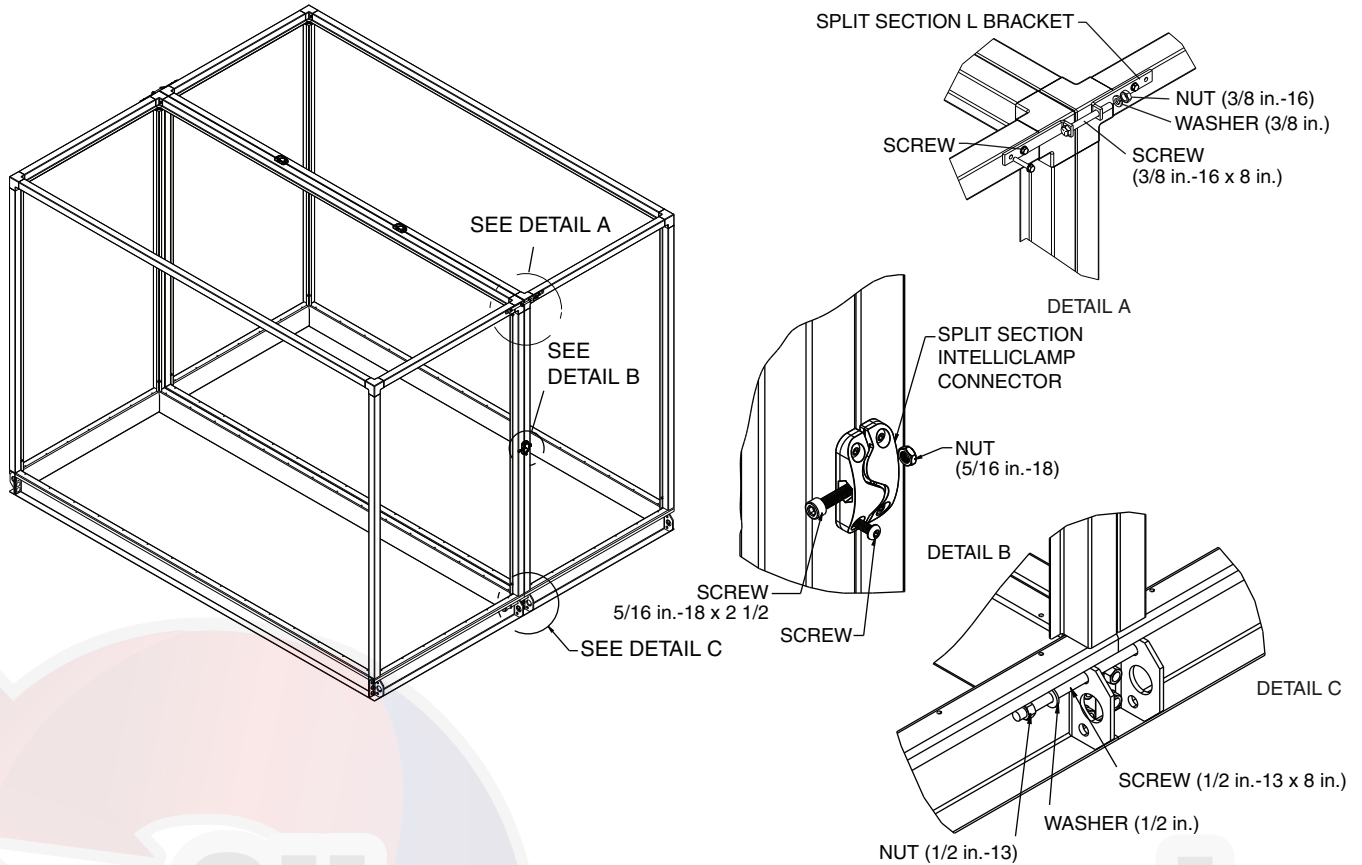

Fig. 24 — Attaching Split Sections — Non-Stacked Units and Lower Level of Stacked Units
5. Pull baserails to contact bottom lifting lug connection. Do not fully tighten. See Fig. 24, Detail C.
6. Align top brackets. Start the screw, but do not fully tighten. See Fig. 24, Detail A. For outdoor units, removal of the roof at the split is necessary to access the top brackets.
7. On side of unit, when Intelliclamp connectors are present (sizes 36 and larger only), align Intelliclamp connector, start the screw, but do not fully tighten. See Fig. 24, Detail B.